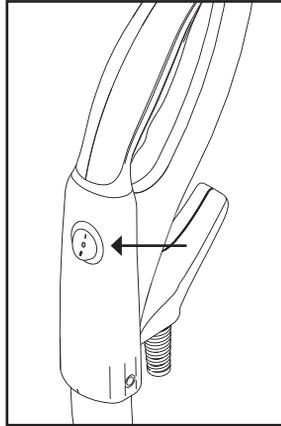

Fig. 2
- The power switch located on the vacuum handle, is a three-way switch (Fig. 2). The middle position is the “Off” setting, the top position is the “On” setting and the bottom position is for “Maximum Power” (Fig. 3).